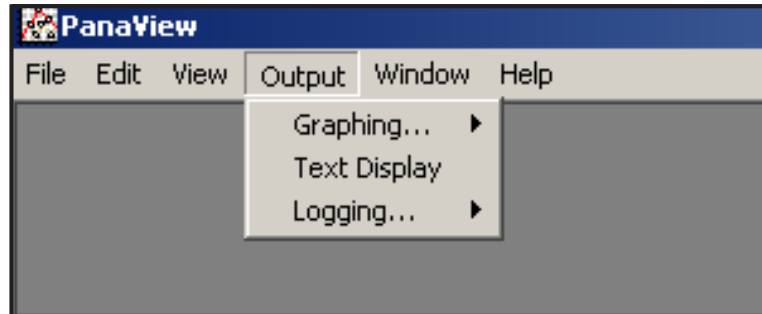

Figure 16: The Output Menu
1. In PanaView, pull down the *Output* menu, as shown in Figure 16 below, and click on the *Text Display* option.